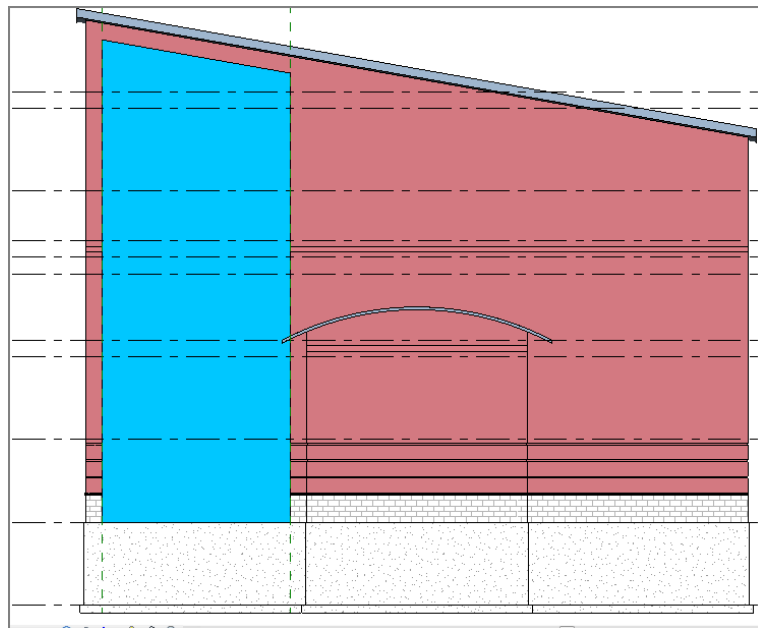

FIGURE 16.29: The complete curtain-wall profile
6. Click Finish Edit Mode. Your curtain wall's profile should resemble Figure 16.29.